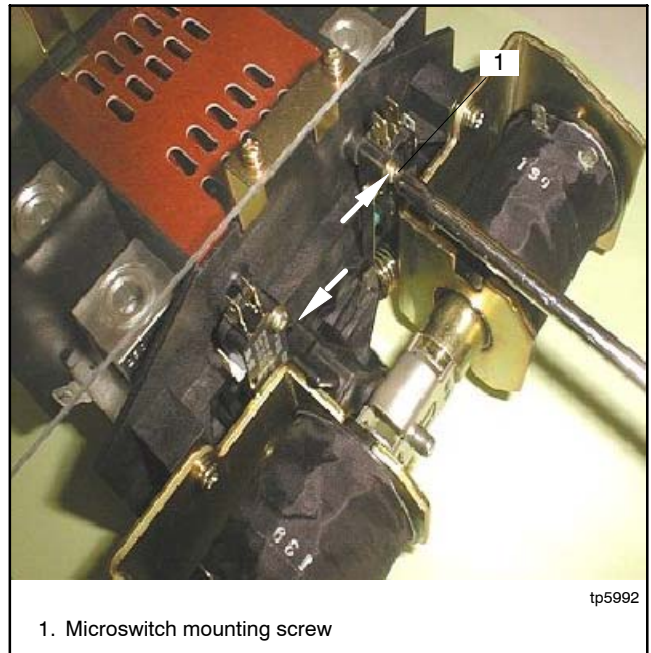

Figure 7-17 Install new Microswitch, 200 Amp Models
1. Remove the microswitch mounting screw and microswitch. See Figure 7-17.
2. Install the new microswitch. Push the microswitch mounting screw in the direction of the arrow shown in Figure 7-17 and tighten it to 0.44 Nm (4 in. lb.).